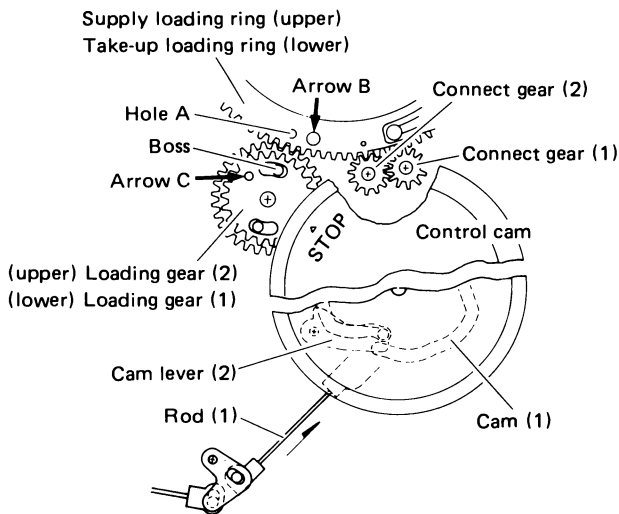

Fig. 2-17 Loading system timing check
1. When the STOP arrow mark of the control cam is aligned with the center of the loading gear, confirm that the boss of the loading gear (1) corresponds with hole A of the supply loading ring.
2. At the same time, confirm that the two holes of the supply and take-up loading rings are aligned through the hole of the main-deck (arrow B in figure 2-17).
3. If a discrepancy is noted, after removing the control cam, remove and reinstall the loading gears and connect gear (2) to obtain the correct position.
4. In order to remove and install the control cam, put suitable tools (hex key wrench, screw driver, etc.) through the holes (arrow B and arrow C in figure 2-17).
5. When install the control cam, move the rod (1) fully to the arrow direction in figure 2-17, then mount the control cam with the mode sensor assembly in the state that the biggest arrow mark on the control cam is aligned with the center of the loading gears.